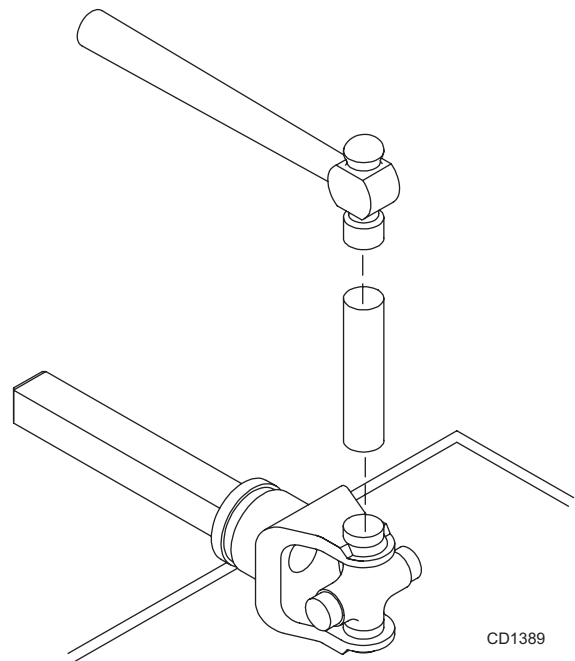

Figure 18
5. Seat cups by placing a drift or socket (slightly smaller than the cup) on cup and rapping with a hammer. See Figure 18.